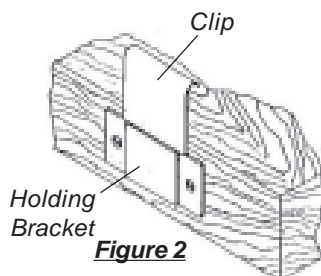

Figure 2
2. Slide the clips into the holding brackets (see Figures 2 or 3).